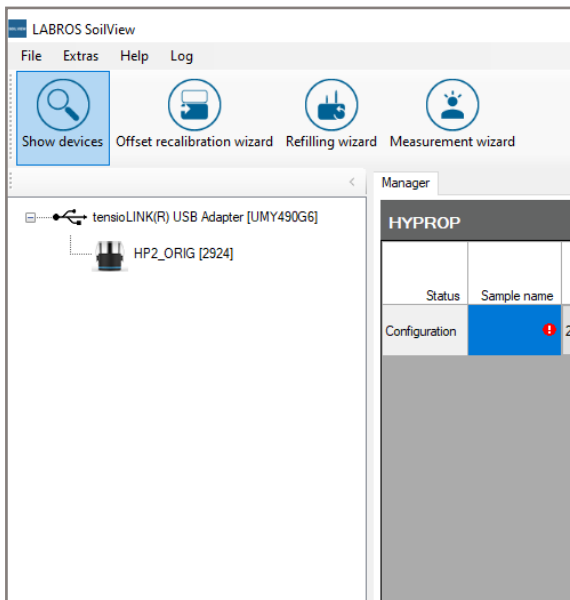

Figure 35 Show devices
4. Select **Show Devices** (Figure 35).